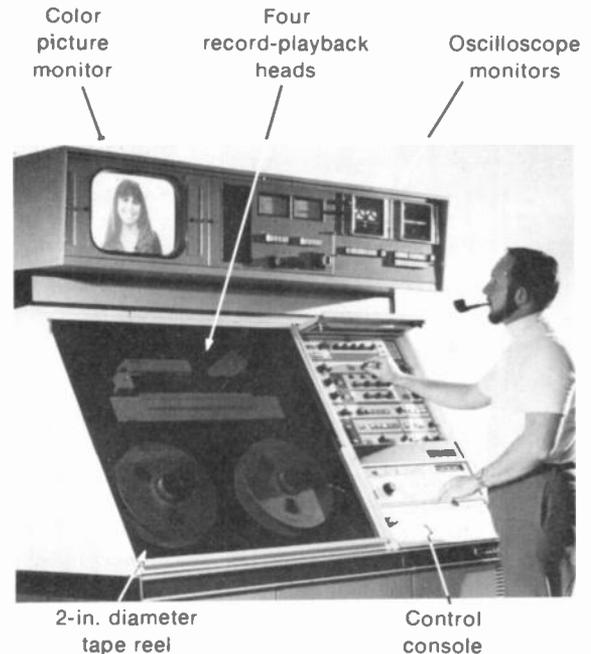

FIGURE 3-21 VIDEO TAPE MACHINE FOR COLOR TELEVISION BROADCASTING. (AMPEX CORPORATION)
**Video tape.** Most studio programs are recorded on video tape, for broadcasting at a convenient time. Also, the tapes are available for rebroadcasting by stations in different areas. Figure 3-21 shows a video tape machine for broadcast use in color television. There are four record-playback heads, mounted on a wheel rotating at 14,400 rpm. The heads are phased  $90^\circ$  apart so that the four gaps contact the tape in sequential order. As a result, the video signal is recorded as a series of transverse tracks across the tape. The sound signal is recorded on a separate track.